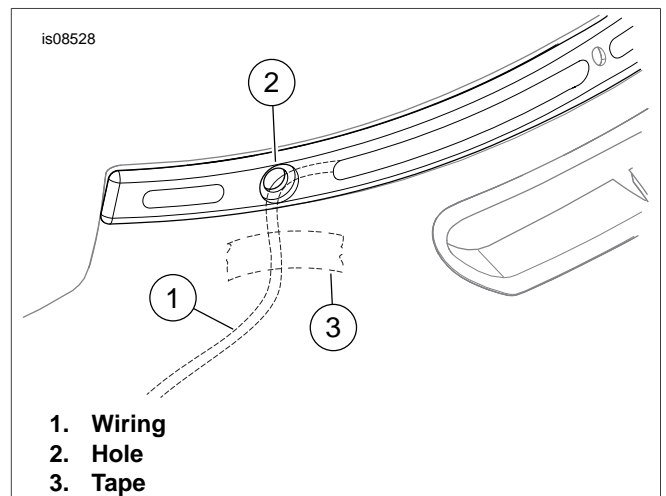

Figure 4. Route Illuminated Windshield Trim Wiring
2. See Figure 4. Route the connector and wiring (1) through the enlarged hole (2) in the outer fairing. Install the illuminated windshield trim onto the front of the outer fairing. Hold trim in place on outer fairing.
3. See Figure 4. Secure the wiring (1) to the inside of the outer fairing with tape (3). This allows the wiring to pass by the threaded mounting insert on the inner fairing without interference when the outer fairing is installed.